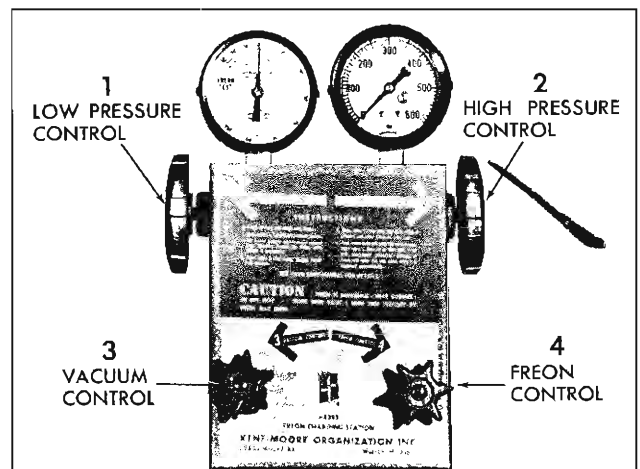

Fig. 39—Charging Station Controls
3. See Figure 39. Turn high pressure control (2) one turn counter-clockwise (open). Crack open low pressure control (1) and allow refrigerant gas to hiss from low pressure gauge line for three seconds, then connect low pressure gauge line to low pressure gauge fitting.
1. Install charging station as previously described. Refer to Figure 39 while performing the following operation.
3. Crack open high (2) and low (1) pressure control valves, and allow refrigerant gas to purge from system. Purge slow enough so that oil does not escape from system along with Refrigerant.
5. Turn on vacuum pump and open Vacuum Control Valve (3).
7. If 28-29 inches cannot be obtained, close Vacuum Control Valve (3) and shut off vacuum pump. Open Refrigerant Control Valve (4) and allow 1/2 pound of R-12 to enter system. Locate and repair all leaks.